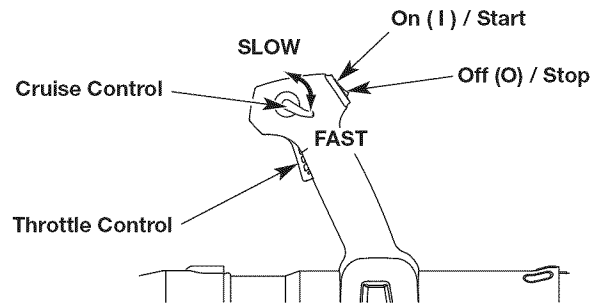

Fig. 7
**NOTE:** There is no need to turn the unit on. The On/Off switch is in the ON (I) position at all times (Fig. 7).
5. Move the cruise control to the FAST position (Fig. 7).
2. Press and hold the On/Off switch in the OFF (O) position until the engine comes to a complete stop (Fig. 7).
**NOTE:** There is no need to turn the unit on. The On/Off switch is in the ON ( I ) position at all times (Fig. 7).
- Use the cruise control to make continuous operation easier (Fig. 7).